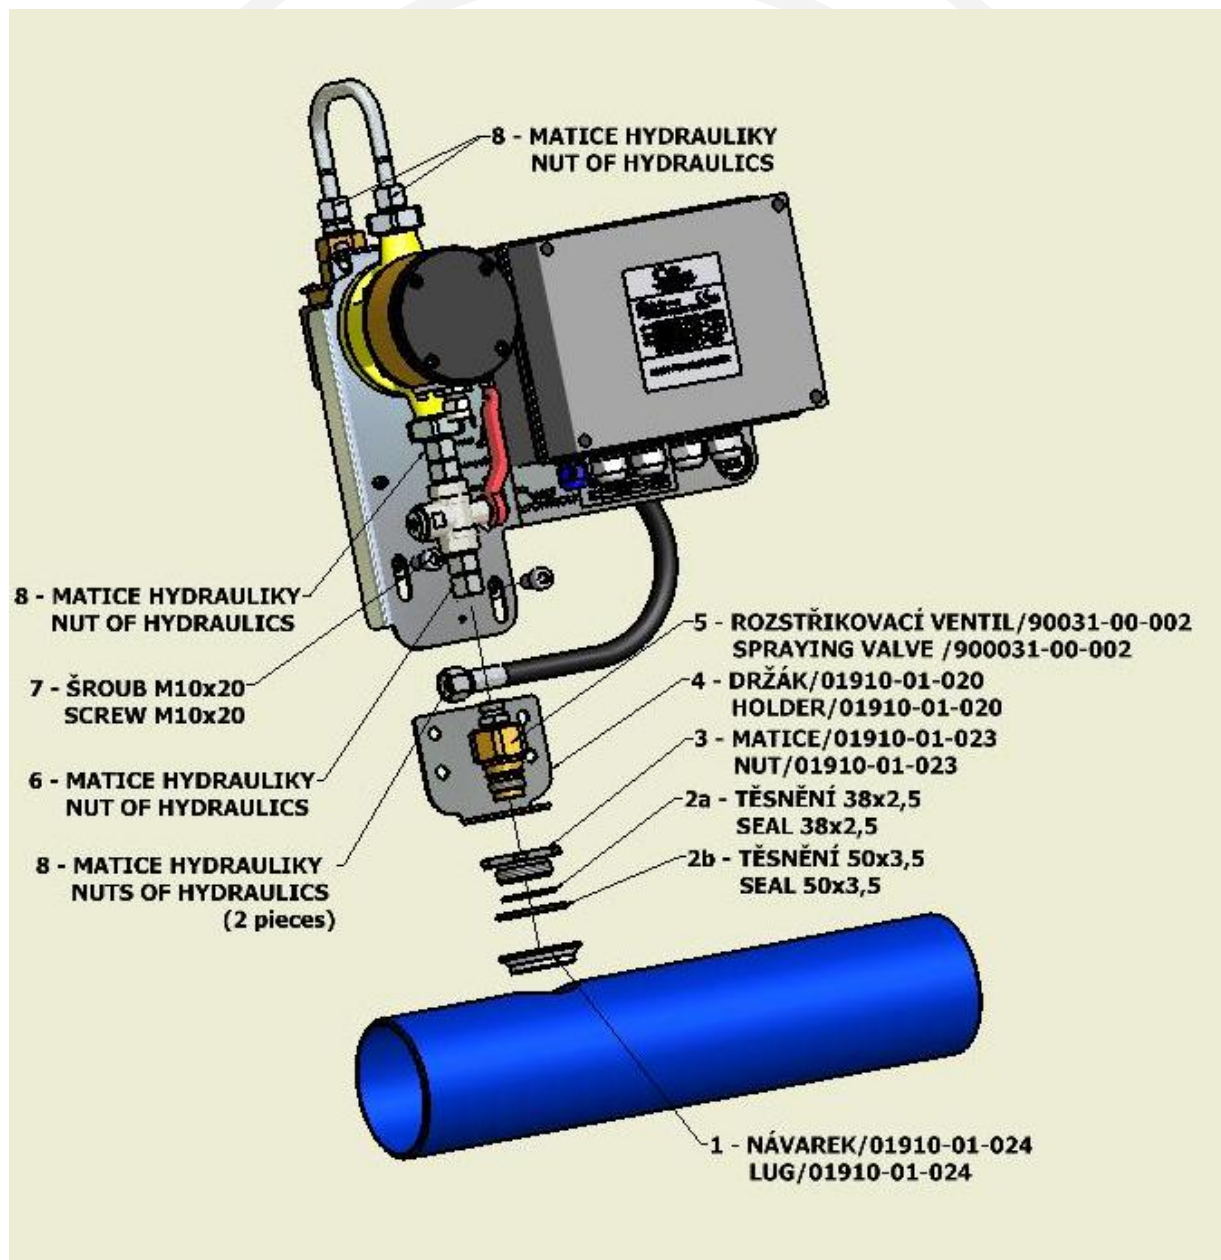

Figure 4.1 The Additive unit installation to the pipeline
A) Before the Aditiv unit installation to the pipeline it is necessary to dismount the items as shown in figure 4.1.
C) The Additive unit is bolt to the Holder and to the Spraying valve as shown in figure 4.1.
1. bolt the screws M10x20 item 7
2. draw up the nut of hydraulics item 6
3. draw up all nuts of hydraulics item 8
4. draw up the screws M10x20 item 7